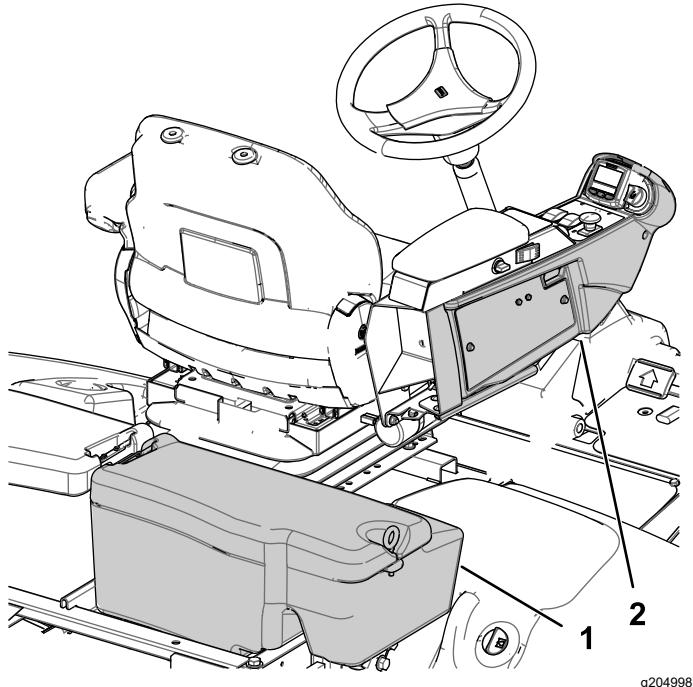

Figure 1
8. Remove the right console cover as shown in Figure 1.